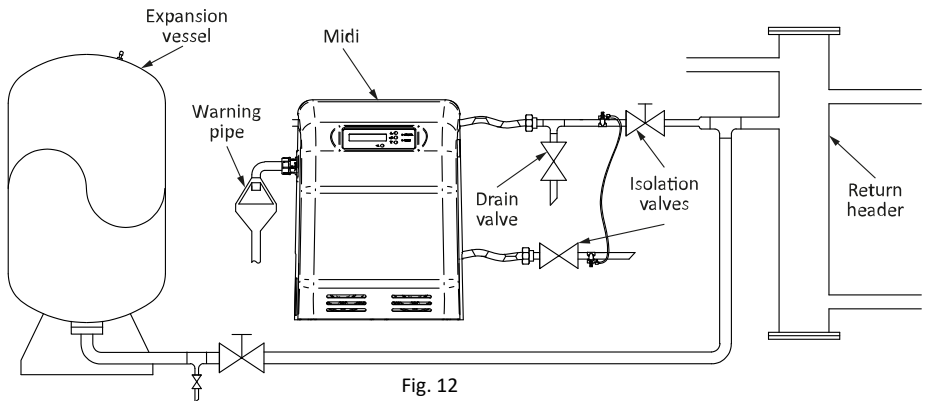

Fig. 12
2. Isolating valves **MUST** be installed on the unit inlet and outlet, before connection to the flexible hoses to allow the unit to be isolated if required. The isolation valve on the outlet should be of a lockshield type. See Fig. 12.
3. A drain valve must be fitted on the outlet of the CORE Midi before the isolation valve. See Fig. 12.
9. The CORE Midi should be connected to the system return header along with the expansion vessels as specified in BS 7074. See Fig. 12.